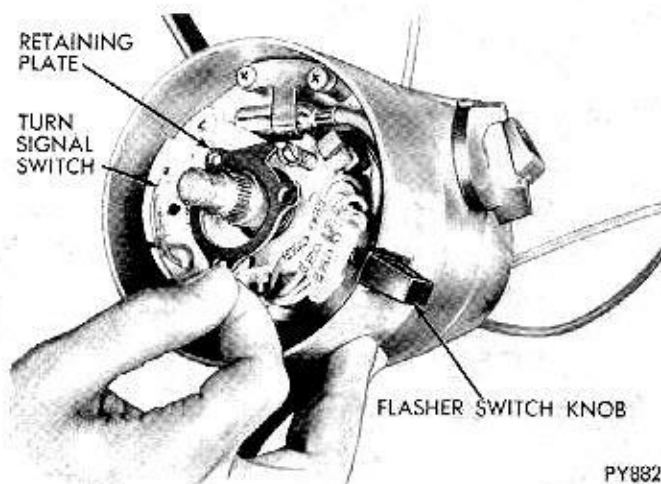

Fig. 3—Retainer and Turn Signal Switch
(1) Remove four bolts attaching bracket assembly to column jacket.
(2) Remove two screws and lift off wiring trough.
(3) Attach Column Holding Fixture C-4132 to column jacket and clamp the assembly in a vise.
(4) Drive out gearshift lever pivot pin, then remove lever and spring from housing.
(5) Remove turn signal switch and upper bearing retainer screws. Remove retainer and lift switch upward out of the way (Fig. 3).